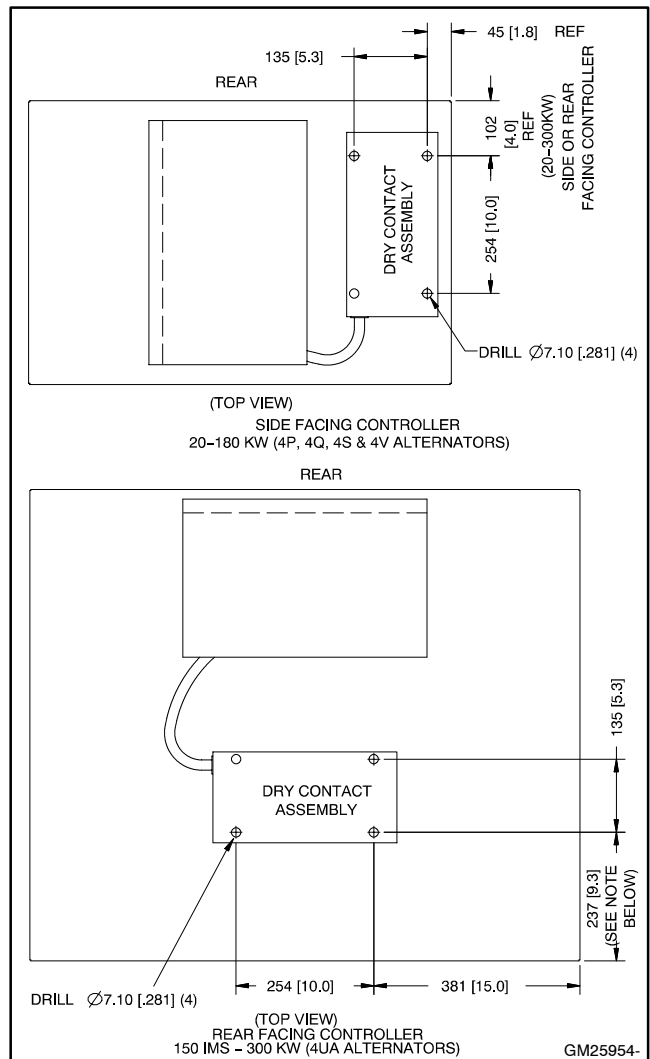
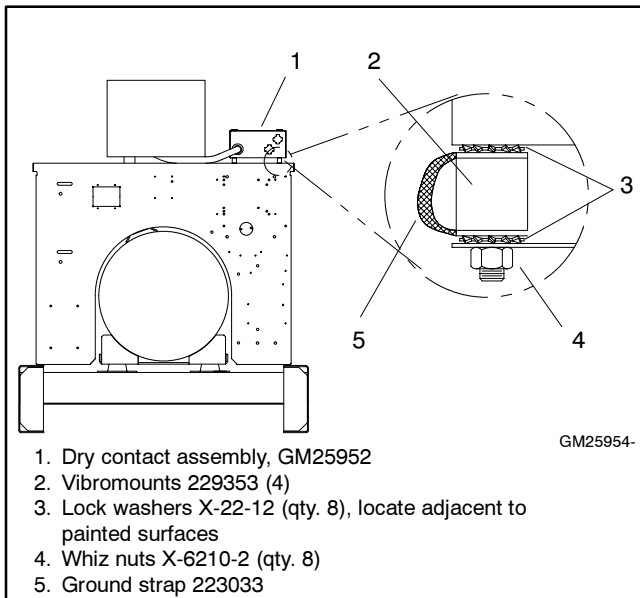

Figure 2 Junction Box Drilling Information (20-300 kW)
Figure 3 Ground Strap Mounting
Mount dry contact assembly in one of the areas listed below. Use dry contact assembly box as a template and drill necessary mounting holes. See Figure 2 or Figure 3 for suggested mounting locations.
2.2.1 Drill four 7.1 mm (0.281 in.) diameter holes in the junction box as shown in Figure 2. The 14-relay dry contact kit mounts behind the controller.
2.2.4 Mount the 14-relay dry contact assembly (GM25952) to the junction box using four vibromounts (229353), eight lock washers (X-22-12), and eight whiz nuts (X-6210-2). See Figure 2 for the mounting position.
When attaching the dry contact assembly to the generator set junction box or skid, install the ground strap (223033) as shown in Figure 3.